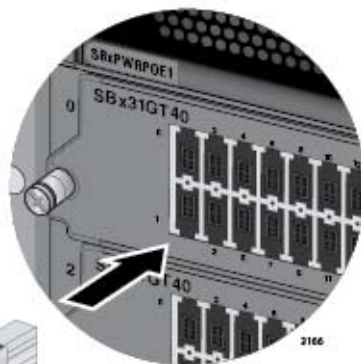

Figure 81. Connecting Cables to Ports on the AT-SBx31GT40 Line Card
- ❑ To connect a cable to a port in the top role on the line card, orient the connector with the release tab on top. To connect a cable to a port in the bottom role, orient the connector with the release tab on the bottom. Refer to Figure 81 on page 144.